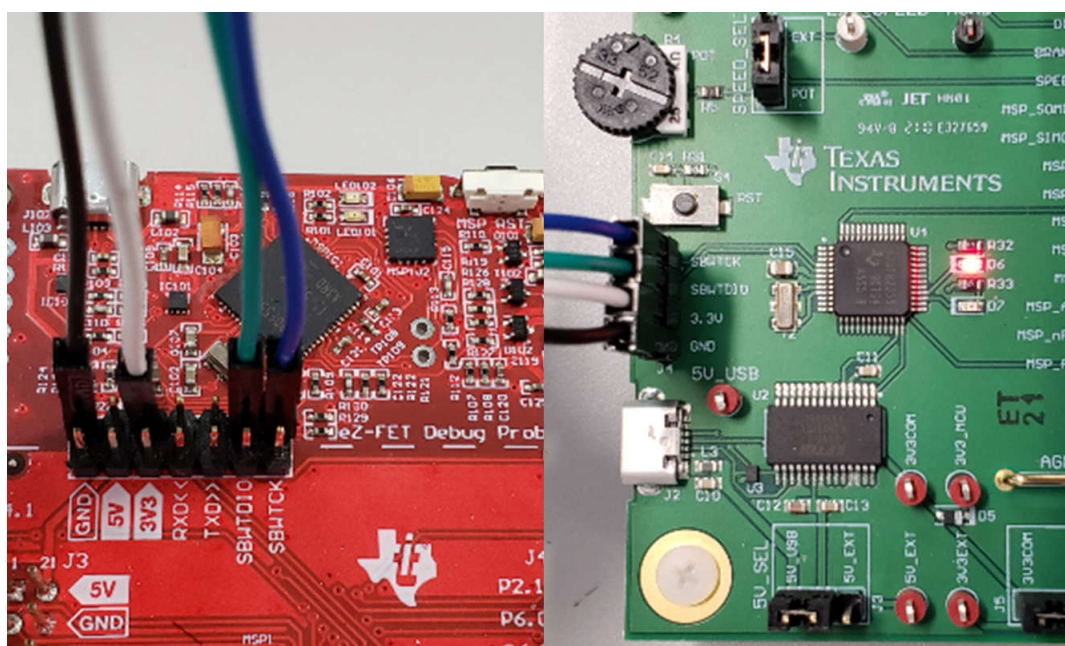

Figure 3-3. MSP430 LaunchPad eZ-FET Debug Probe Connected to MSP430FR2355
2. Connect the top pins on the eZ-FET side of the LaunchPad of the GND, 3V3, SBWTDIO, SBWTCK signals to the respective pins on J7 of the MCF8329RRYEVM as shown in Table 3-1 and Figure 3-3.